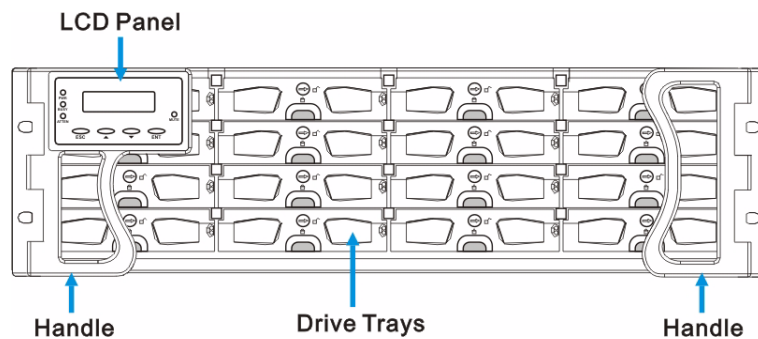
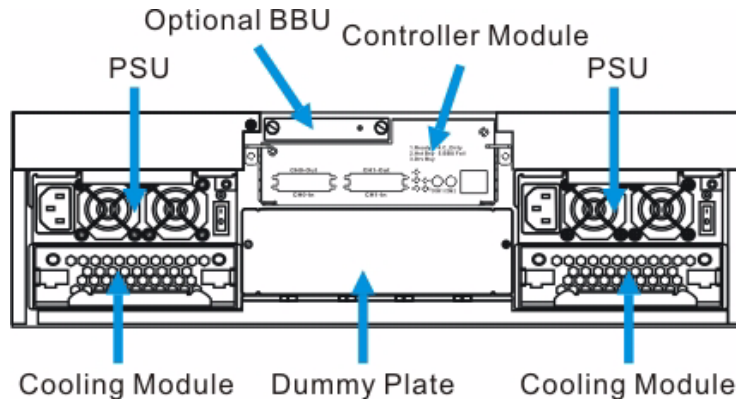

Fig. 2.4 RAID subsystem Front View
Fig. 2.6 RAID subsystem Rear View
The RAID storage subsystem chassis is an enhanced 3U metal chassis divided into front and rear sections, which are respectively accessed through front (see *Figure 2.4*) and rear (see *Figure 2.6*) panels. Pre-drilled mounting holes in the sides of the 3U RAID subsystem enclosure allow you to attach separately purchased slide rails so that you can install the enclosure into a rack or cabinet.
The front panel of the RAID subsystem described in this manual is shown in *Figure 2.4*. A description of each front panel component is given below:
The front panel shown in *Figure 2.4* accommodates the following components:
The rear panel of the RAID subsystem described in this manual is shown in *Figure 2.6*. A description of each rear panel component is given below:
The rear panel shown in *Figure 2.6* accommodates the following components:
The RAID subsystem is equipped with two (2) redundant, hot-swappable, 460W PSUs, which are located at the rear of the enclosure. (See *Figure 2.6*) The PSU is permanently mounted into a 2U (dual-level) bracket especially designed to house both the PSU and a cooling module, which is mounted in the lower part of the 2U bracket. Hot-swapping the PSU requires the removal of the cooling module.